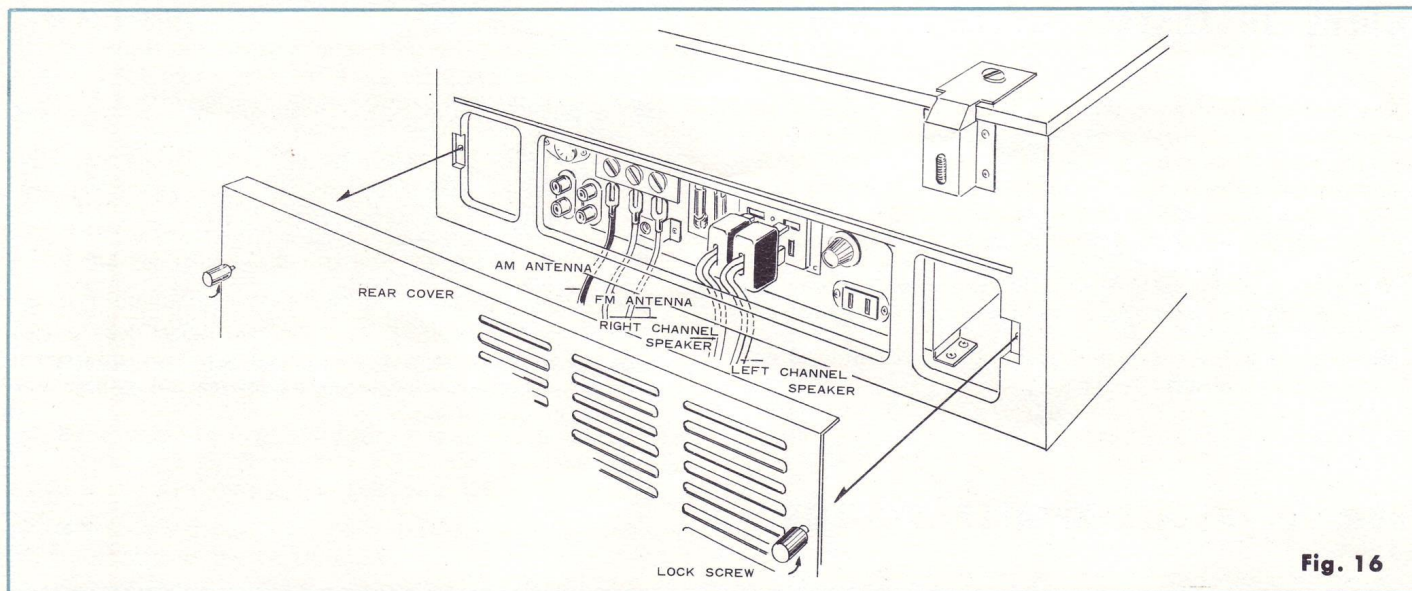

Fig. 16
2. Insert the speaker cords (or antenna lead wires, etc.) thru the slot located in the bottom of the amplifier, and properly connect them to corresponding sockets (or terminals) as shown in Fig. 16. Do not use the holes in the rear cover for inserting cords and lead wires, because the rear cover can not be replaced back on the amplifier.